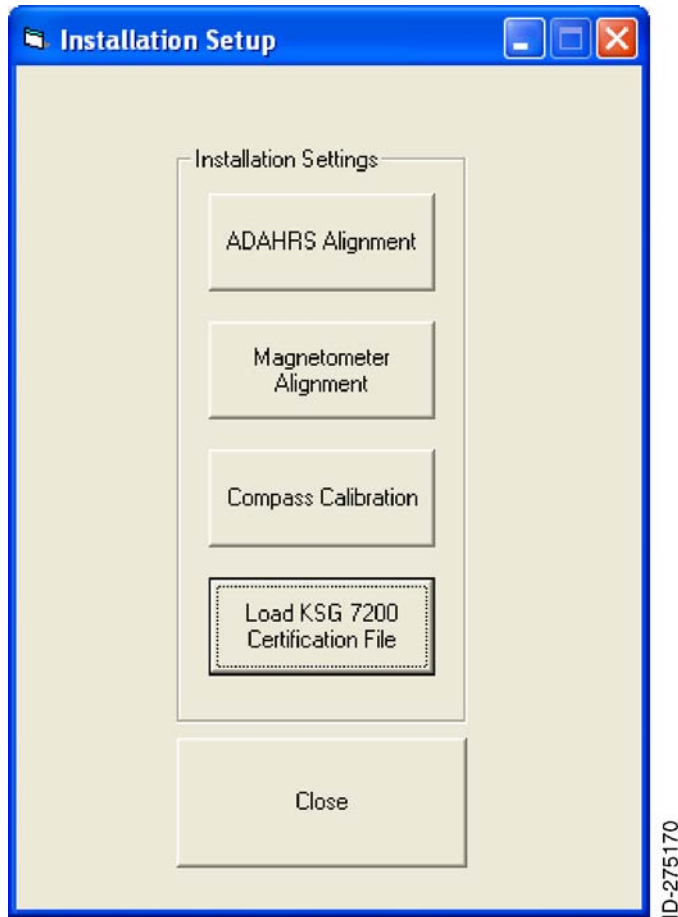

Figure 25. (Sheet 1 of 1) Installation Setup Window
- (5) The Installation Setup window will appear. Refer to Figure 25.